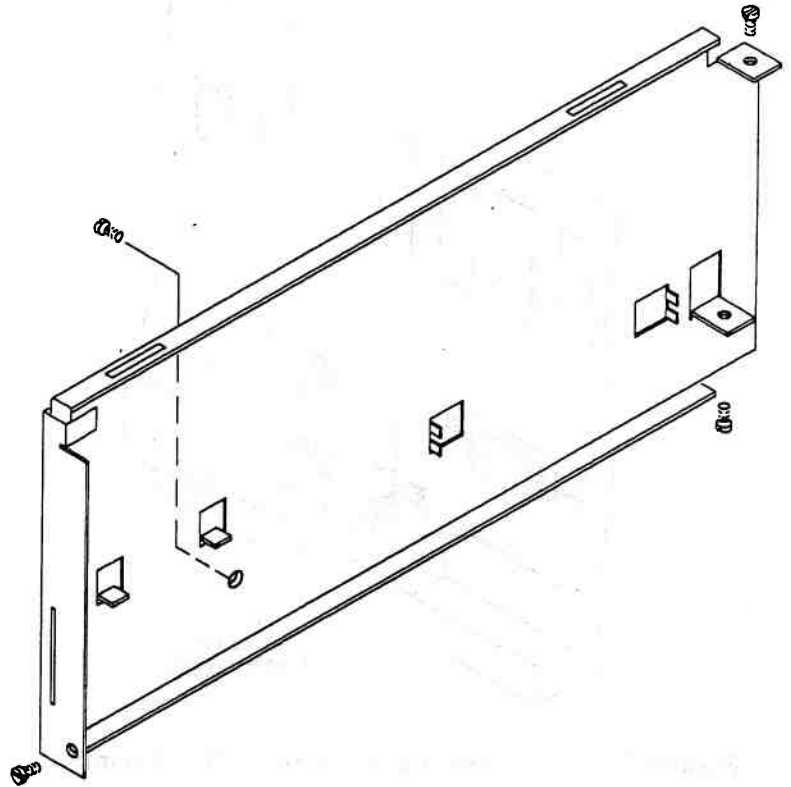

Figure 5-56. Removing the Left Side Panel
11. Remove the four screws that secure the left panel to the chassis. One of the screws is on the front, one at the top of the rear panel, one on the left panel, and one at the rear of the chassis on the Motherboard side (Figure 5-56).